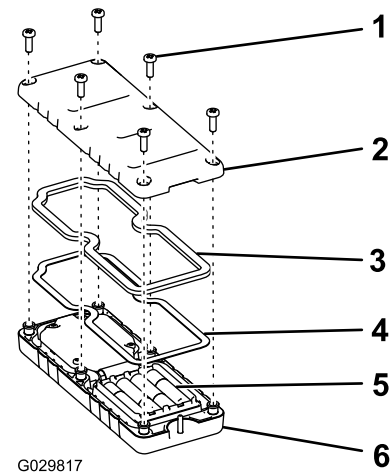

Figure 35
5. Replace the cover and secure it with the 6 screws removed previously (**Figure 35**) and torque them to 1.5 to 1.7 N·m (13 to 15 in-lb).
1. Remove the 6 screws from the back of the remote and remove the cover (**Figure 35**).